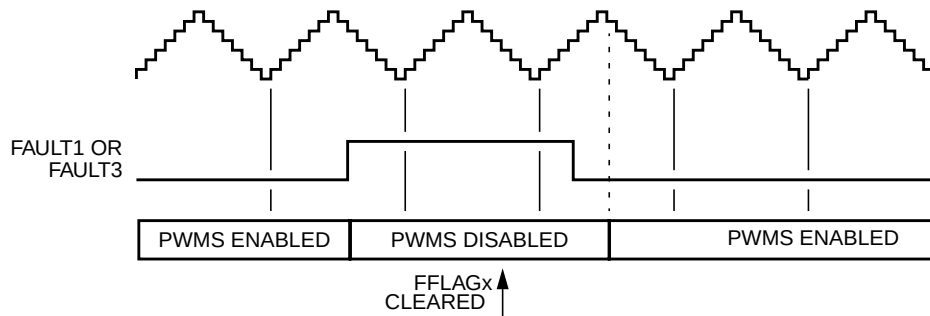

**Figure 11-79. Manual Fault Clearing (Faults 1 & 3)**
- The filter detects a logic zero on the fault pin at the start of the next PWM half cycle boundary. See Figure 11-79.